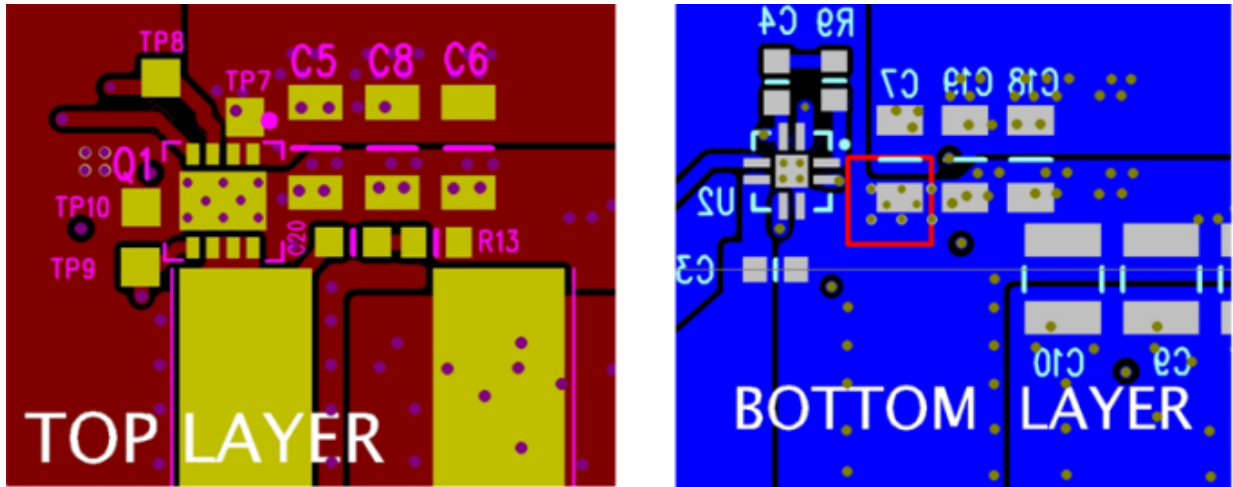

Figure 34. Recommended PCB Layout (Top Down View)
- The placement of the input capacitors relative to the power block's VIN and PGND pins should have the highest priority during the component placement routine. It is critical to minimize these node lengths. As such, ceramic input capacitors need to be placed as close as possible to the VIN and PGND pins (see Figure 34). The example in Figure 34 uses 6 × 10-μF ceramic capacitors (TDK part C3216X5R1C106KT or equivalent). Notice there are ceramic capacitors on both sides of the board with an appropriate amount of vias interconnecting both layers. In terms of priority of placement next to the power block, C5, C7, C19, and C8 should follow in order.
- The switching node of the output inductor should be placed relatively close to the power block VSW pins. Minimizing the node length between these two components will reduce the PCB conduction losses and actually reduce the switching noise level. In the event the switch node waveform exhibits ringing that reaches undesirable levels, the use of a boost resistor or RC snubber can be an effective way to easily reduce the peak ring level. The recommended boost resistor value will range between 1 Ω to 4.7 Ω depending on the output characteristics of driver IC used in conjunction with the power block. The RC snubber values can range from 0.5 Ω to 2.2 Ω for the R and 330 pF to 2200 pF for the C. Please refer to Snubber Circuits: Theory, Design and Application (SLUP100) for more details on how to properly tune the RC snubber values. The RC snubber should be placed as close as possible to the VSW node and PGND see Figure 34. ⁽¹⁾
- Use the smallest drill size allowed in your design. The example in Figure 34 uses vias with a 10-mil drill hole and a 16-mil capture pad.